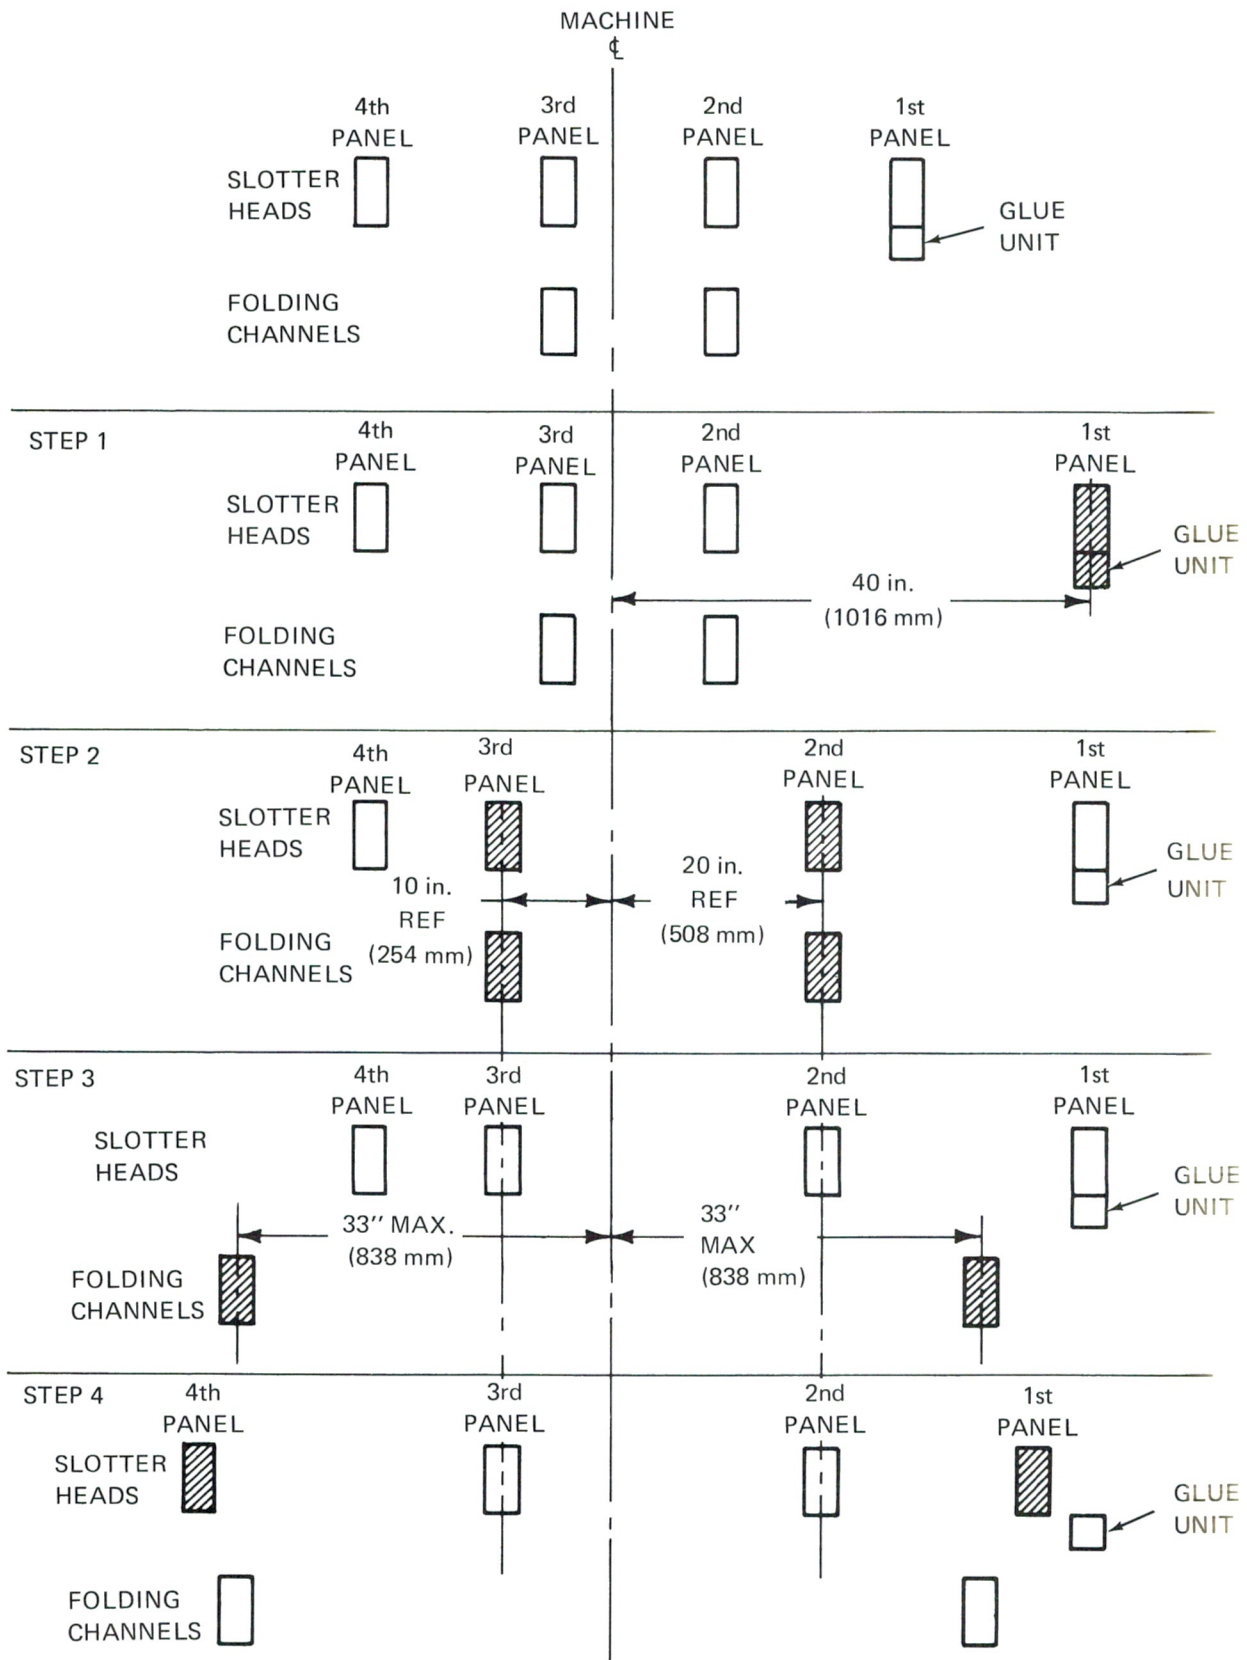

FIGURE 9-1. INDEPENDENT FOLDING SECTION ADJUSTMENT
1. ADJUSTING FOLDING SECTION FOR UNFOLDED, TRAY AND FIVE-PANEL BOXES (Figure 9-1)